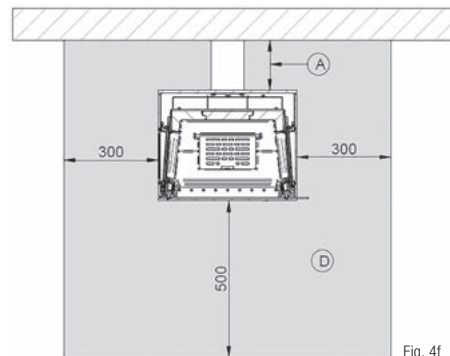

Fig. 4f
2. Floors made of combustible materials in front of the firebox opening must be protected by a board made of non-combustible materials. The board must extend at least 500 mm to the front and side! (Fig. 4f).